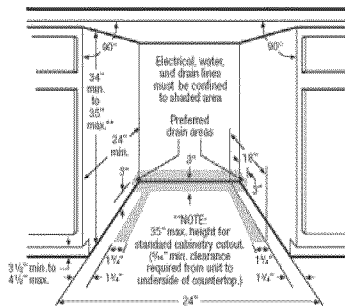

Figure 2
IMPORTANT: For proper operation and appearance of unit, cabinet opening should have dimensions as shown in Figure 2. If unit is to be placed in a corner, there must be at least a 2-inch side clearance to open door.
Electrical, water, and drain lines must be confined to shaded areas in Figure 2.
1. Review dimensions in Figure 2 to locate dishwasher's drain, water, and electrical connections.
2. All utilities must be routed in shaded area in the Figure 2. IMPORTANT: Disconnect power before starting installation. Note: Locate the electrical supply and dishwasher's electrical junction box on right underside of unit behind kickplate assembly. See Figure 5. Determine where you will connect to hot water supply. Review Figure 5 and note the location of water inlet valve. Determine where you will connect the drain hose.
3. Cut access holes for the Electrical, Water and Drain hoses in the shaded areas as shown in Figure 2.